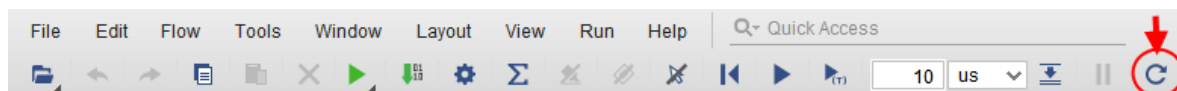

Figure 4-18: relaunch sim option
2. Use the Relaunch  button on the Vivado IDE toolbar to re-compile and re-launch the simulation as shown in Figure 4-18. You may alternatively use the `relaunch_sim` Tcl command to re-compile and re-launch the simulation.